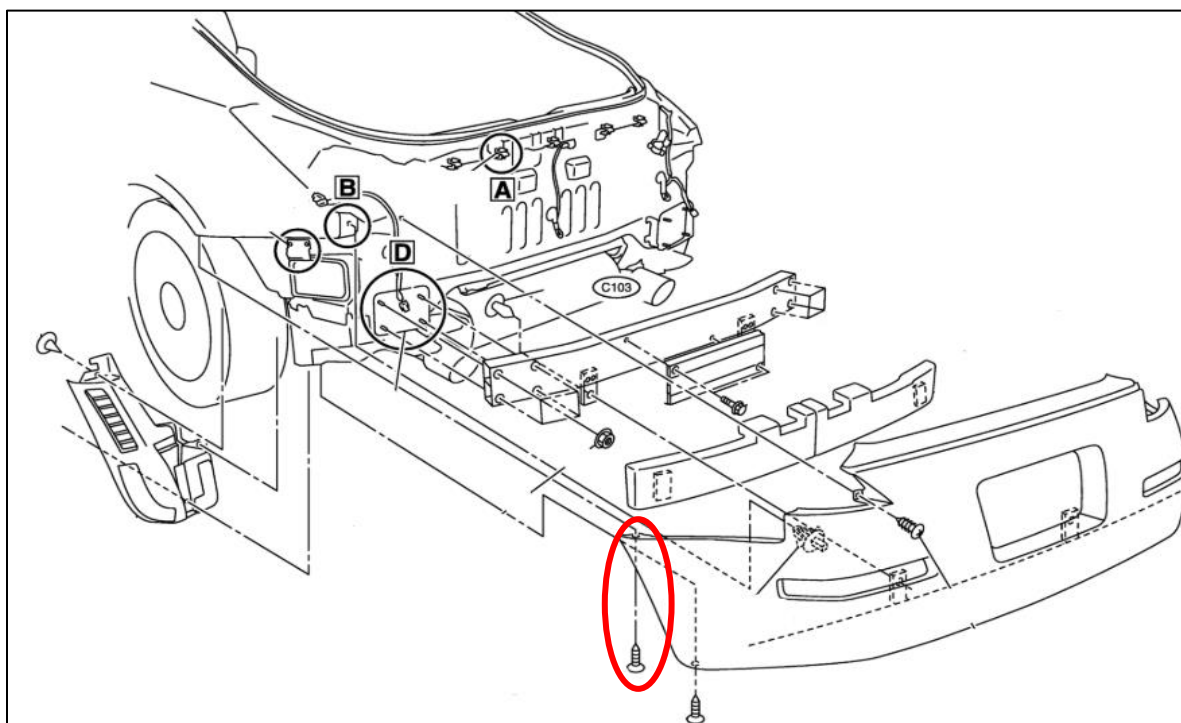

Figure 3
7. Remove the (2) two bolts, (1) one on each side of the car mounting the Rear Bumper to the Rear Fenders. *Figure 3.*